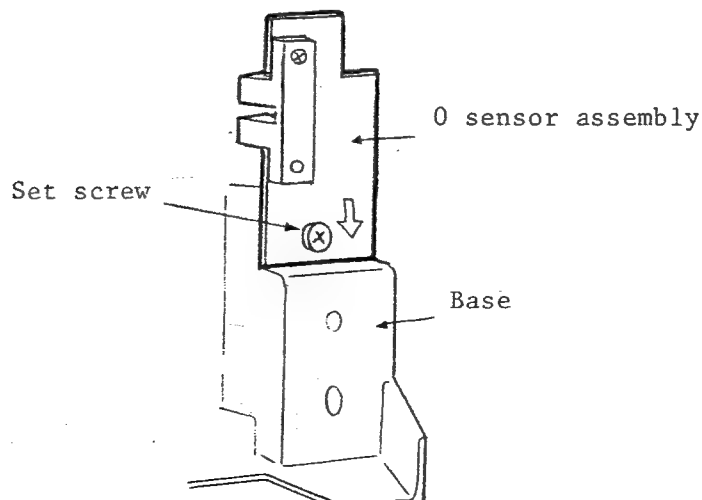

Fig. 4.10 0 Sensor Assembly
(1) Tools and measuring instruments to be used:
(2) Disassembling
(3) Assembling
- (a) Attach the 0 sensor assembly. Press the plate in the arrowed direction (Fig. 4.10) and secure it temporarily.